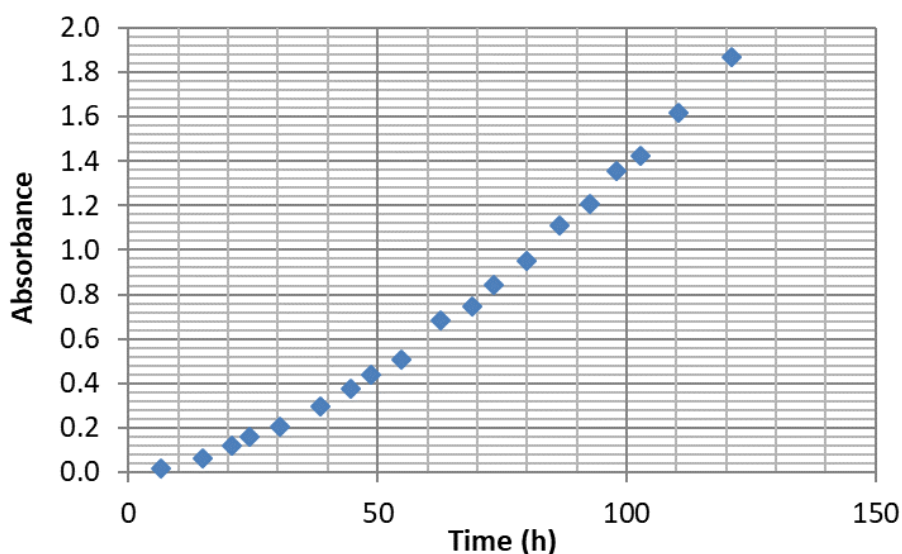

Figure 2: A_{470} (absorbance at 470 nm) as a function of time for the fructose - glycine reaction
A second experiment (B) was carried out by adding $n_{\text{Fru,B},0} = 1$ mol of fructose and $n_{\text{Gly,B},0} = 0.5$ mol of glycine without sodium metabisulphite to a 1 L sodium acetate/acetic acid buffer. A magnetic stirrer was used all along the experiment. Every 6 hours, the absorbance of an aliquot of 1 mL was directly measured at 470 nm in a cell of $l = 1$ cm. The obtained data is shown in figure 2. Given the steps (1) and (2), the concentration of the melanoidin product $[\text{M}]$ can be written as:
8. **Determine** graphically the value of $\left. \frac{dA_{470}}{dt} \right|_{t=80\text{h}}$ derivative of A_{470} absorbance at 470 nm at $t = 80$ h based on figure 2.